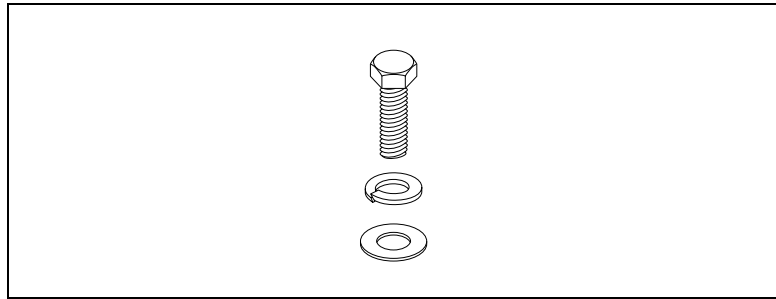

Figure 8: Mounting screw assembly
Figure 8 illustrates how the screw, split lock, flat washer and double-tab washer are put together.
- 1 Assemble the screw, split lock washer, flat washer and double-tab washer as shown in Figure 8.